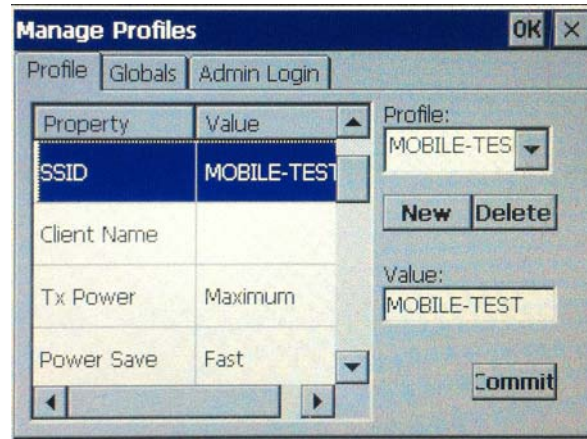

Figure 4-24: Laird Connection Manager – Manage Profiles
- Step 6:** The Manage Profiles window appears with a list of detailed information of the Wi-Fi network (Figure 4-24).